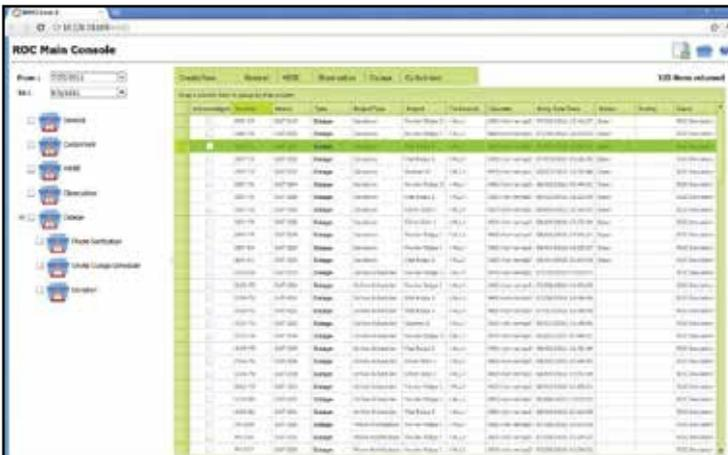

Figure 3: Screenshot—Electronic Logs.
- Electronic Logs—This module provides an electronic log framework (Figure 3) to allow users to make log entries under predefined categories such as safety, environment, and operating procedures, among others. The log entries should be supportable with any digital media (voice, pictures, videos).